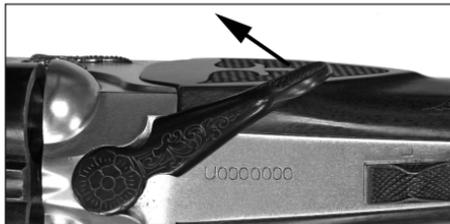

FIGURE 4
- Before opening the action of the shotgun, make sure that the gun is pointed in a safe direction. With one hand, move the top lever to the right as far as it will go (see FIGURE 4) (don't use excessive force, the lever should move easily). With the other hand, pull down on the barrels until the action is fully open. Insert one or two shells of the proper gauge into the chambers.